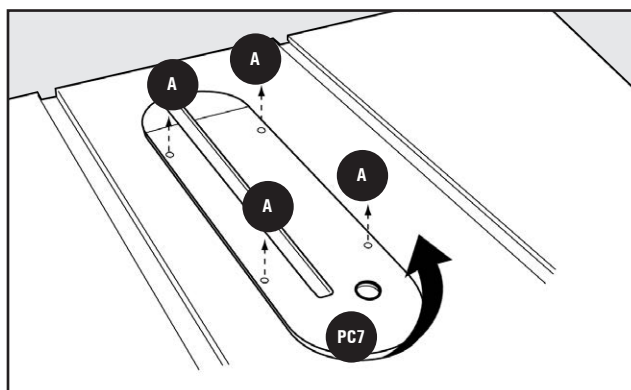

FIGURE 12
4. To remove Throat Plate, lower Blade below Tabletop, then carefully slide the throat plate out from the front of the table to the rear, using the cutout on Figure 12.